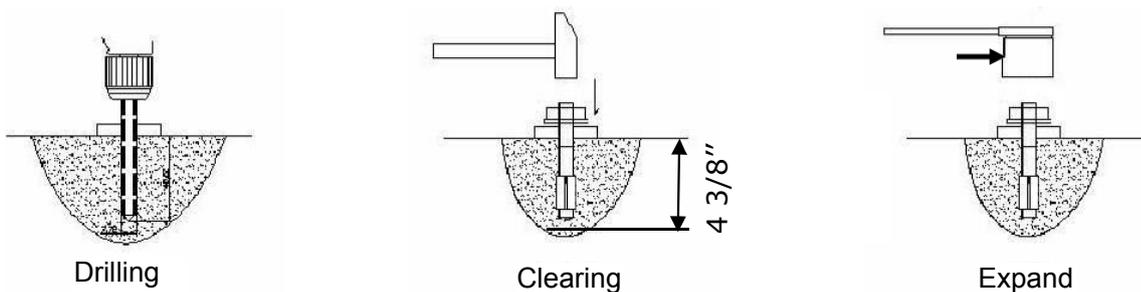

Fig.24
2. Using the prescribed rotary hammer drill, and drill all the anchor holes and install the anchor bolts. Make the columns plumpness, and adjusting with the shims if not, then tighten the anchor bolts (**See Fig. 24**).